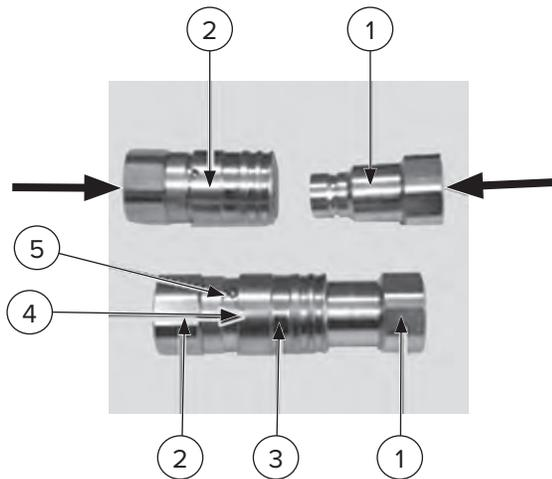

Figure 5
1. Push the male coupler [Figure 5, Item 1] into the female coupler [Item 2] until it clicks into place in the ring nut [Item 3].
NOTE: Figure 5 shows flat-faced quick couplers with a snap-fastening safety ring nut.
- Turn the ring nut [Figure 5, Item 3] so that the notch [Item 4] lines up with the spherule [Item 5]. Push the ring nut [Item 3] towards the spherule [Item 5] to disconnect the quick coupler.